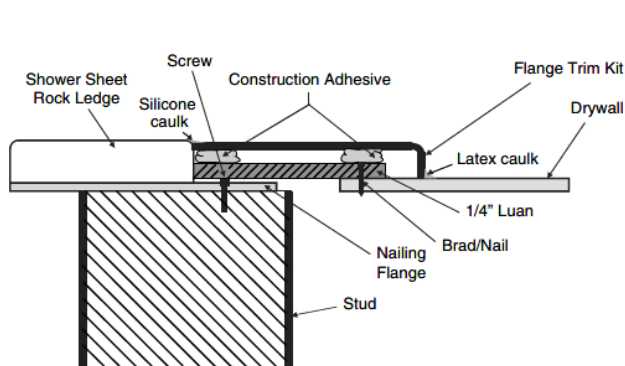

**Figure 5**
- 3 Measure the distance from the finished face of piece C to the front face of the side walls. This will be referred to as Dimension A. (Fig. 5)